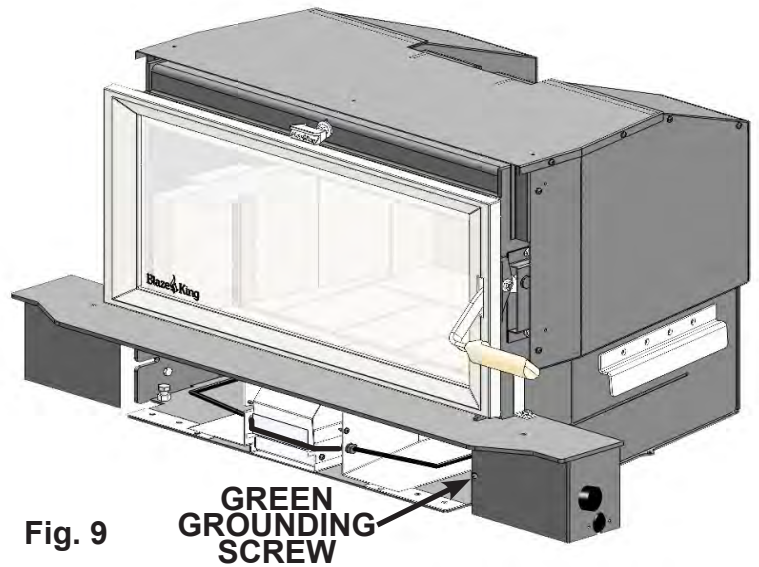

Fig. 9
4. Complete the wiring assembly by connecting the loose end of rheostat to power cord. Then connect other loose end of power cord to loose end of fan interconnect wire harness. Finally, using supplied ground screw, fasten power cord and interconnect ground wire to ground hole on front of lower shroud. **(Fig. 9)**